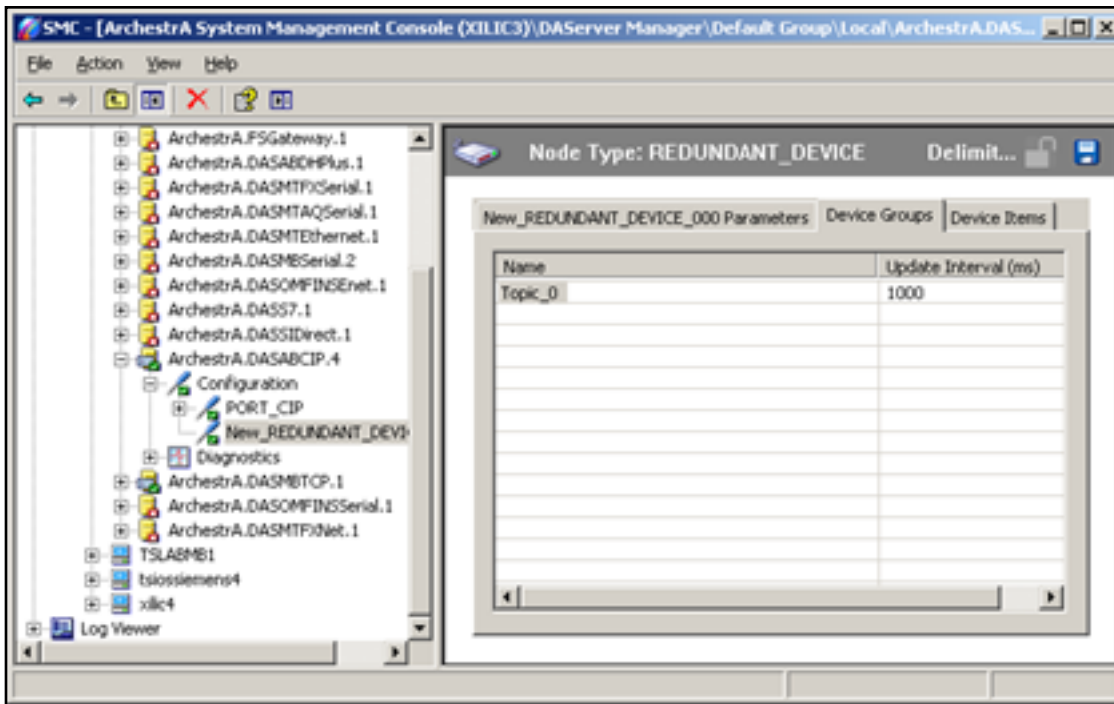

Figure 9: Defining the Device Groups
- The last step in configuring the Redundancy Object is to define the Device Group(s). The Device group is used in the client application (InTouch®) as Topic Name for the Access Name configuration (Figure 9 below).